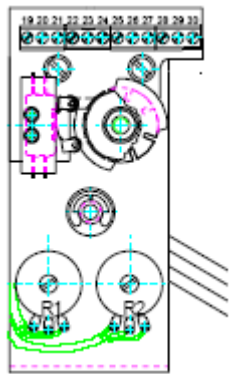
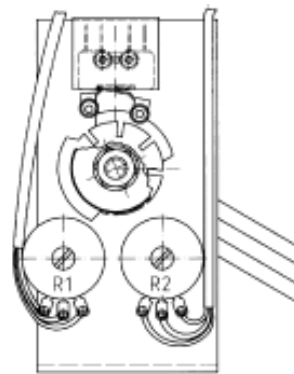

Figure B1: “POT” at EL12, EL20 and EL45
Figure B2: “POT” at EL80, EL120 and EL250
- Slide potentiometer [283] with spacer ring [291] from the side of the tripping cam into the provided bore (see figure B1 for actuators EL12, EL20 and EL45 or figure B2 for actuators EL80, EL120 and EL250)